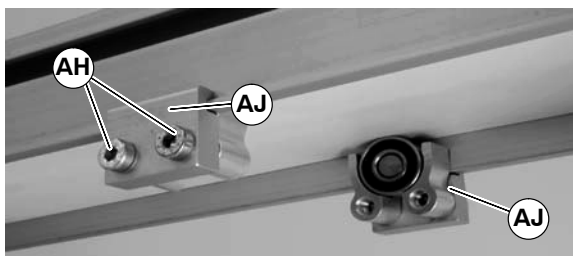

Figure 14
3. Install roller assemblies (AJ of Figure 14) as shown. Tighten screws (AH) to 60 in-lb (7 Nm).